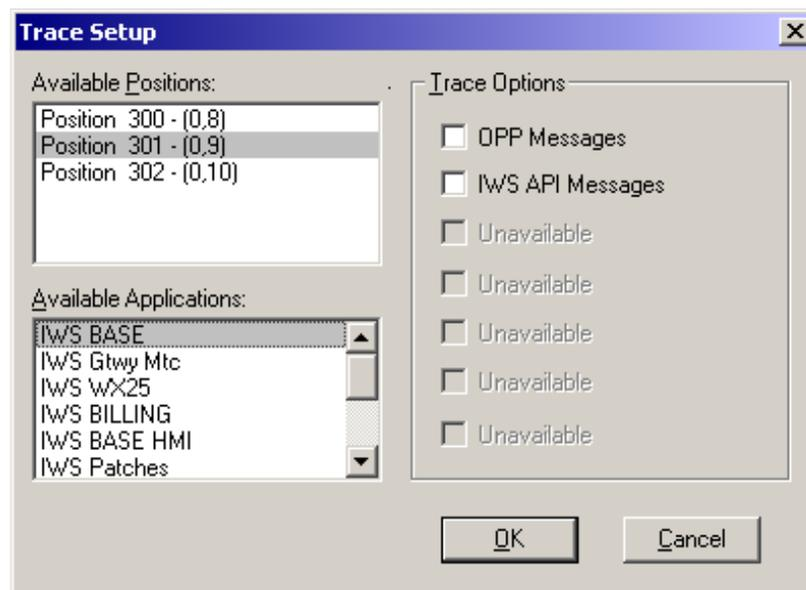

FIGURE 14. Trace Setup dialog box
The Trace Setup dialog box (see Figure 14) contains smaller boxes for selection of available positions, available applications, and trace options.
2. Select the application you want to trace in the Available Applications box. Only one application can be selected at a time. For example, IWS BASE is selected in Figure 14.